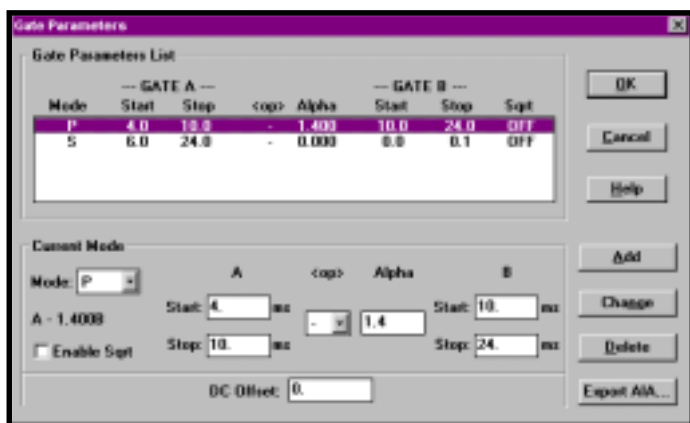

Figure 4.5. Gate Parameters Screen
2. In the Gate Parameters List, select the desired gate mode to be exported as an AIA file (see Figure 4.5). One of the modes in the Gate Parameters List must be selected to activate the **Export AIA** button.